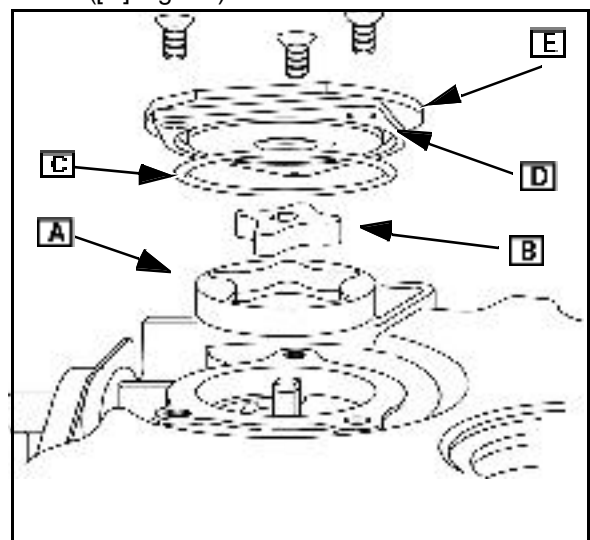

Fig. 11
5. Oil and install outer (A) and inner rotor (B) Fig. 11) in pump cavity. Do not use force to install and turn the rotors to engage the pump in the cam or governor gear.
7. Place O-ring (C) in groove (D), in cover ([E] Fig. 11).